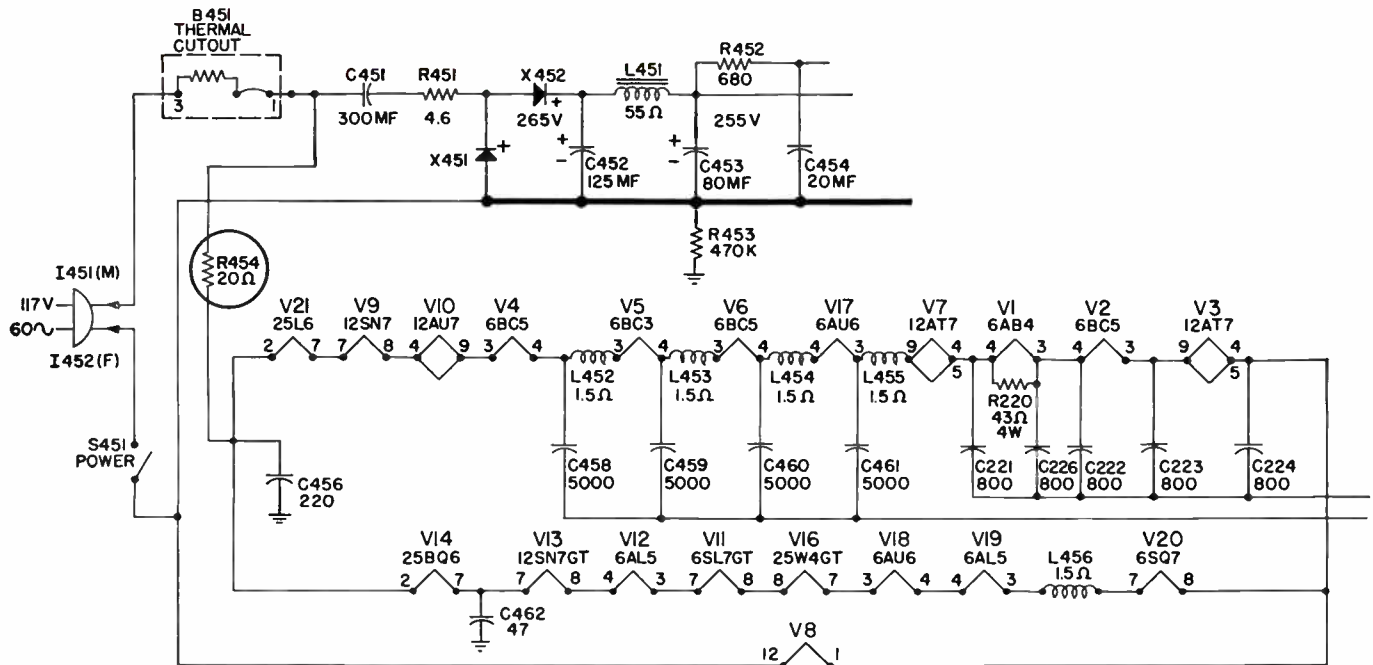

FIG. 1. Filament circuit used in a number of General Electric TV receivers.
**TELE-CLUE F-156.** A reduction in both height and width may be caused by increased resistance in Globar Resistor R-454 in Fig. 1. Since an increase in this resistance will reduce the filament voltage on all the tubes, the picture quality and brightness may also be affected.